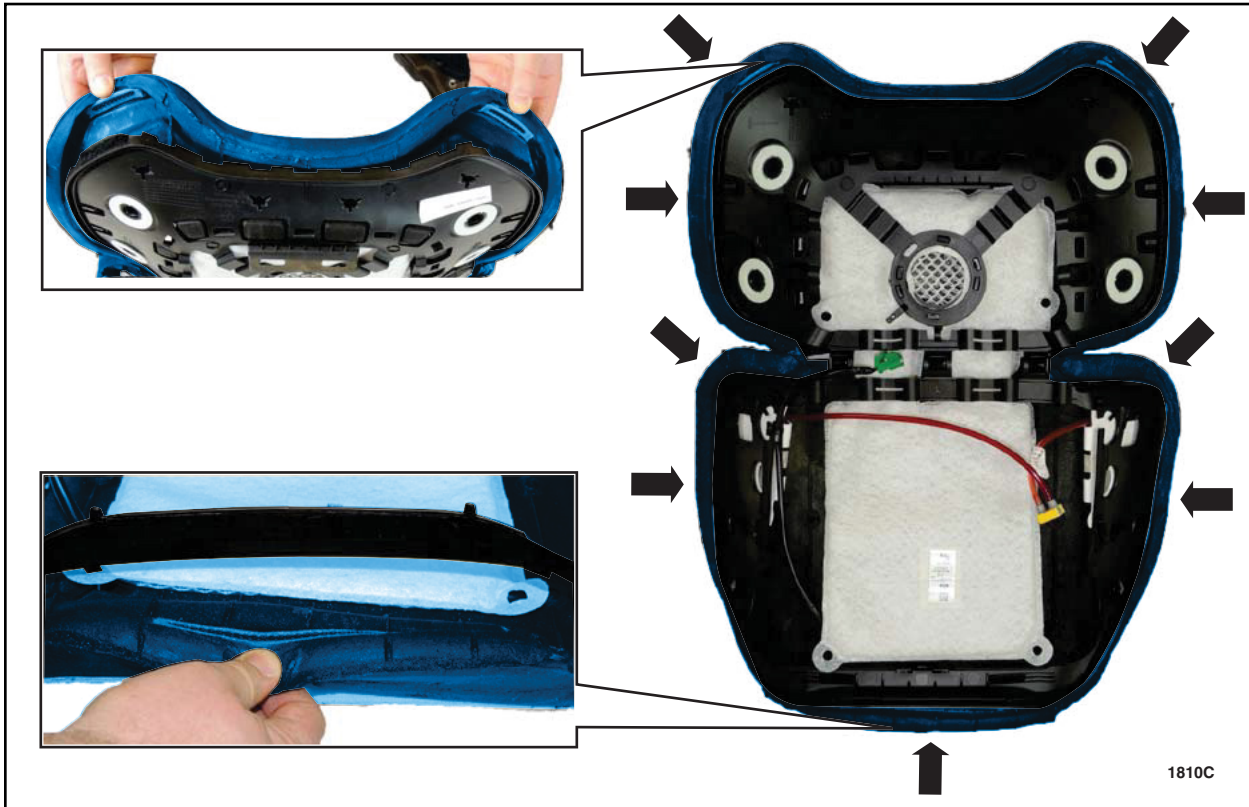

FIGURE 3
4. Release the hook and loop strips and separate the seat backrest foam from the seat backrest bolster. See Figure 3.